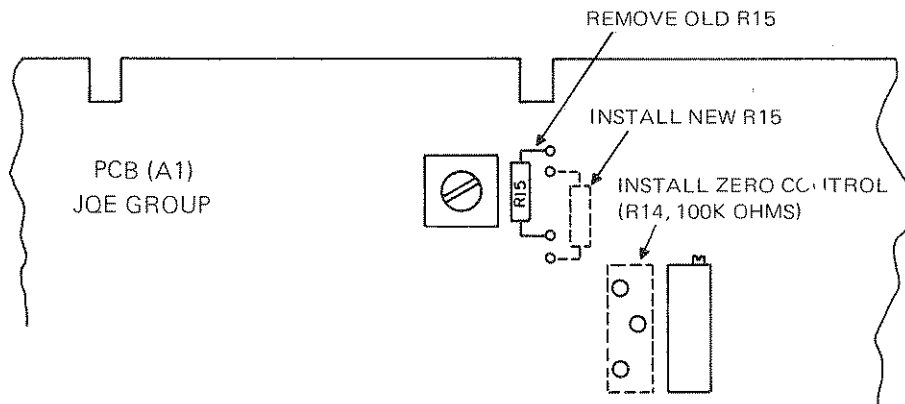

FIG. 5-2 INSTALLATION OF ZERO CONTROL
- a) Remove the PCB Assembly from the chassis as described in paragraph 5-3. Locate the pre-designated space for the additional components on FIG. 5-2.